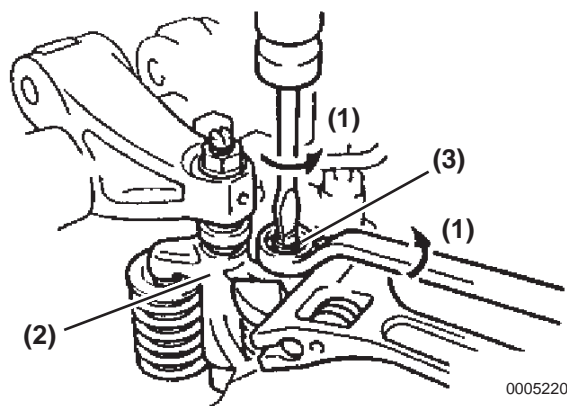

Figure 5-221
1. Loosen (**Figure 5-221, (1)**) the lock nut on the valve bridge (**Figure 5-221, (2)**) and adjust the adjusting screw (**Figure 5-221, (3)**) until the two bridge heads come into contact with the two valve stem heads.